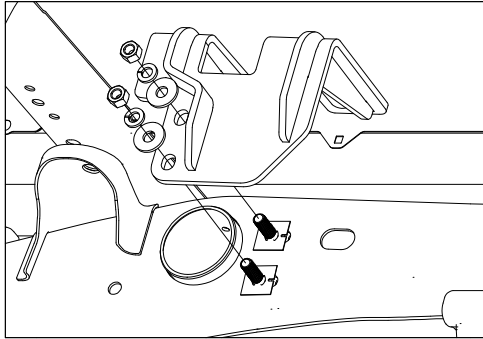

Figure F4: View looking into driver side wheel well.
**3a. Install the front side plates (without overload brackets).** Locate the two front side plates, four 1/2" lock washers, four 1/2" finish nuts. Pass the top flange of the rear side plates over the frame and then pass the holes in the side plates over the carriage bolts. Secure the side plates with a 1/2" lock washer and nut, see Figure F4. Hand tighten hardware only at this time.